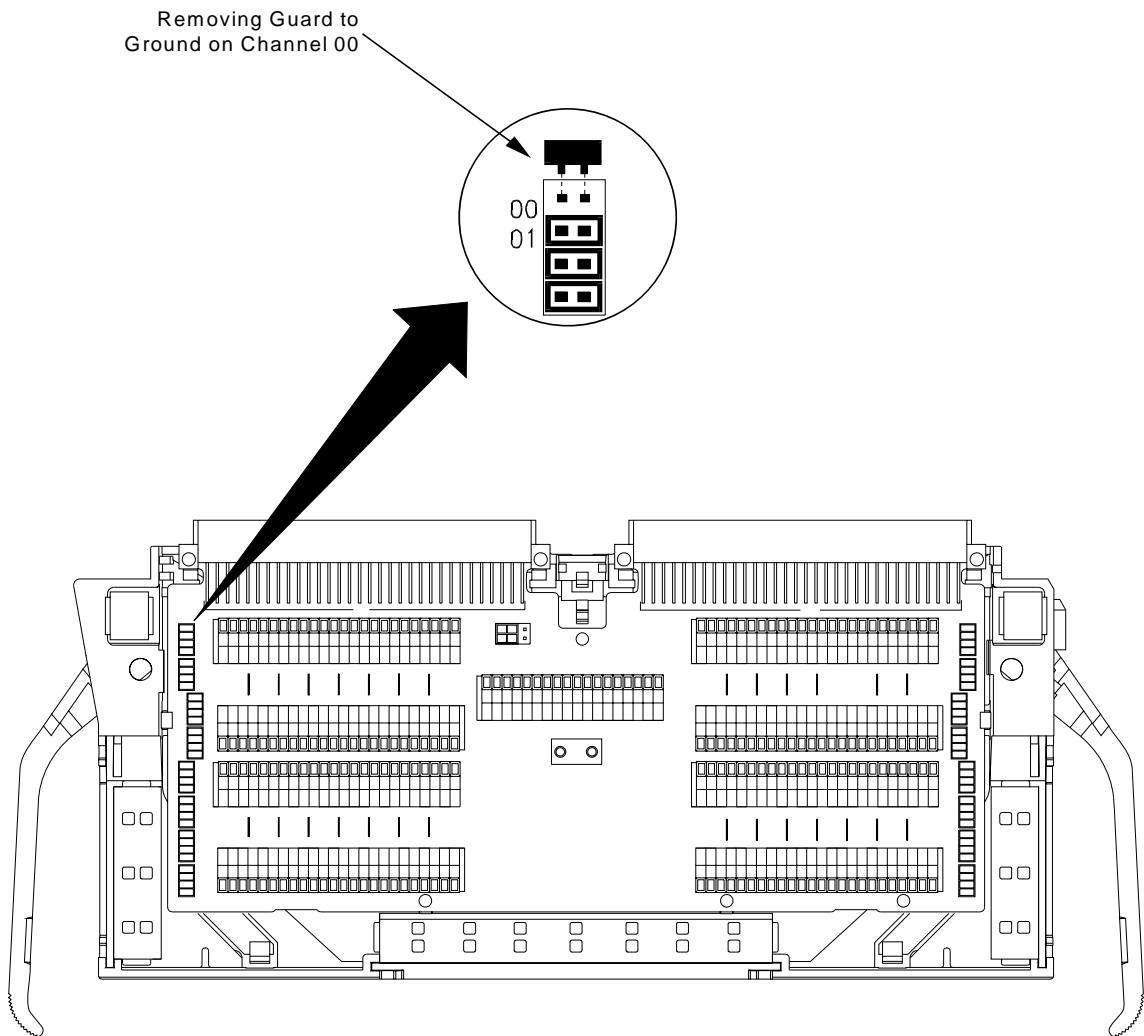

Figure 2-11. Grounding the Guard Terminals
4. The Terminal Module is shipped with the Ground-to-Guard (GND-GRD) shorting jumper installed for each channel. These may be left installed or removed (see Figure 2-11 to remove the jumper), dependent on the following conditions: